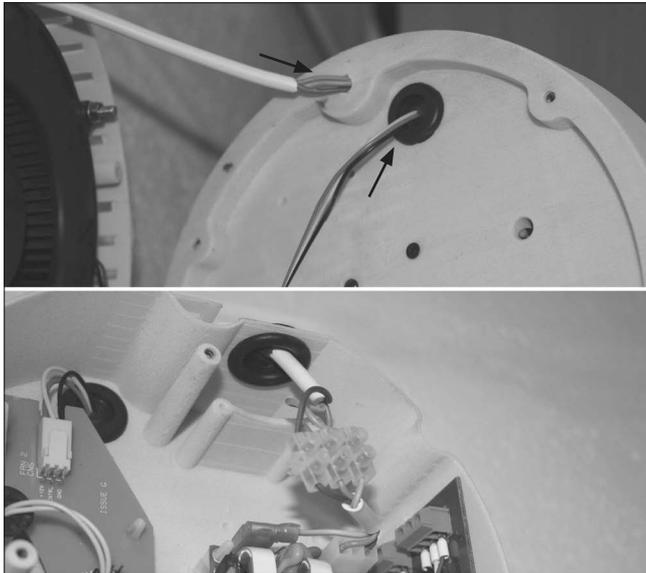

Fig.7A
- 7 Pull the mains cable through the entry hole and pierced grommet in the centre assembly. Connect the cable to the mains supply or SELV board depending on the model being installed (Fig.7A). See pages 21-22 for wiring diagrams.